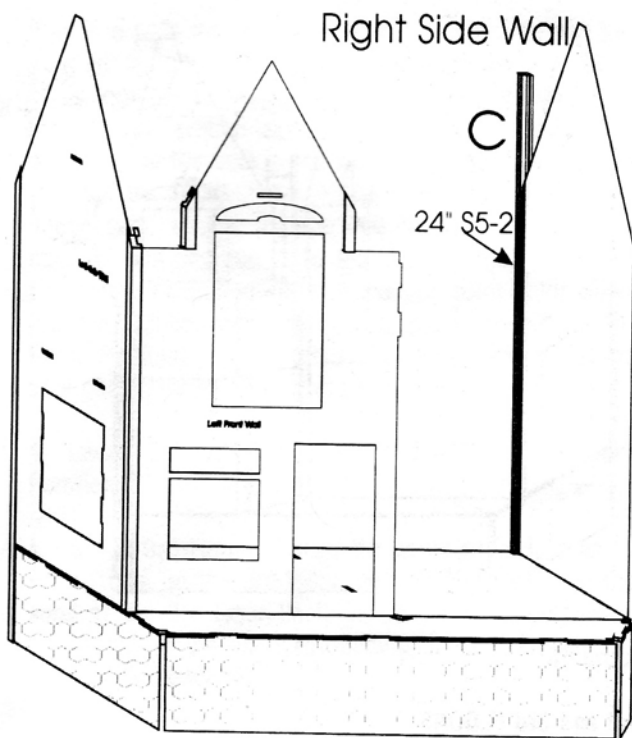

Figure 12
7. Right Side Wall- Install a 24" piece of S5-2 into the right back corner of the base assembly, location "C". Insert and glue the Right Side Wall into the forward facing groove of the S5-2, making sure the wall edge is fully seated into the groove. See Figure 12.